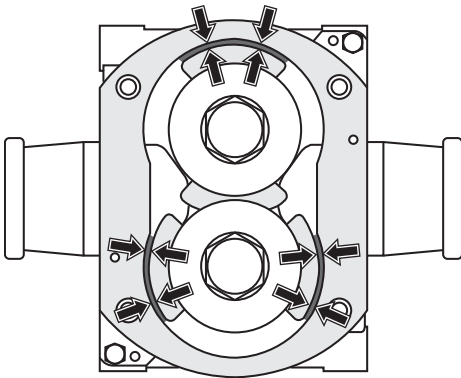

Fig. 40 Measurement of radial clearance
1. Measure the clearance between the rotor and the casing using a leaf feeler gauge; see Fig. 40, "Measurement of radial clearance," page 27.